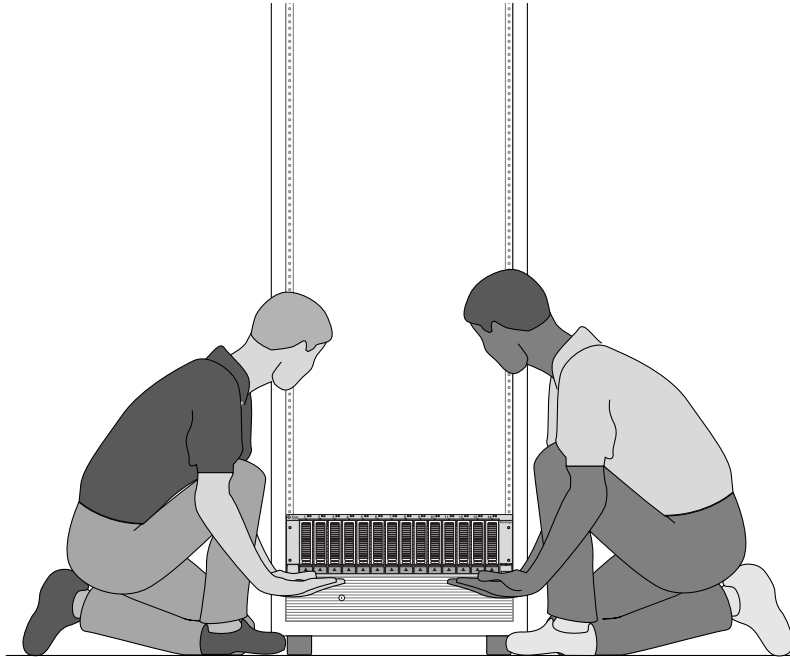

FIGURE 2-14 Positioning the Enclosure in the Cabinet
2. Using two people, one at each side of the enclosure, carefully lift and rest the enclosure on the bottom ledge of the left and right rails (FIGURE 2-14).